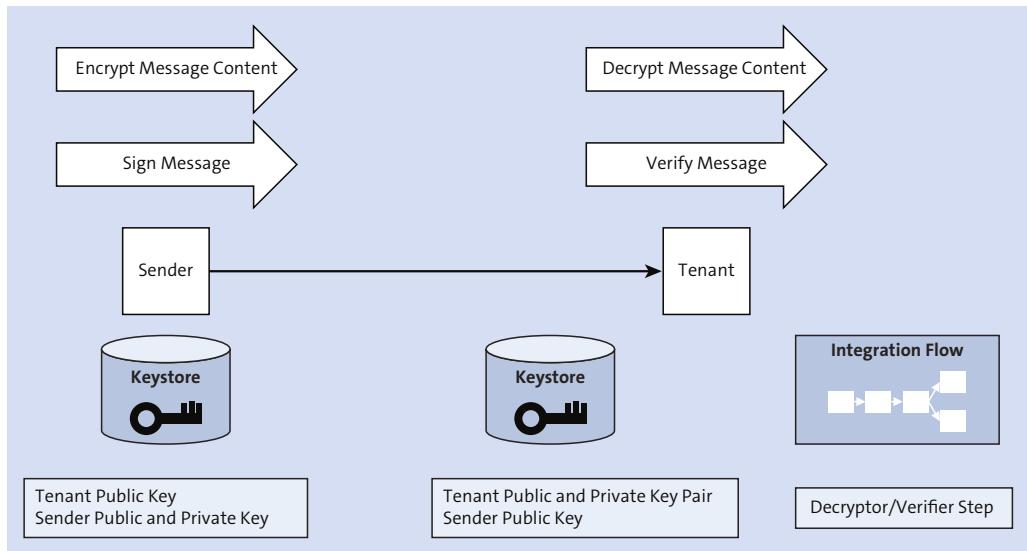

Figure 10.28 Configuring Message-Level Security for Inbound Communication
Figure 10.28 shows how the components interact with each other at runtime (at the top) and the required security setup to realize this behavior (on the bottom).
You might notice that, other than in the transport-level security case, the load balancer isn't depicted in Figure 10.28. It doesn't play a role because we consider the application level (or message level), not the transport level. The termination and reestablishment of the TLS request takes place only on the transport level. The message is encrypted on its way between the sender and tenant (across the load balancer).
- Generate key pairs for both the tenant and the sender system, and set up the keystores, as shown in Figure 10.28.